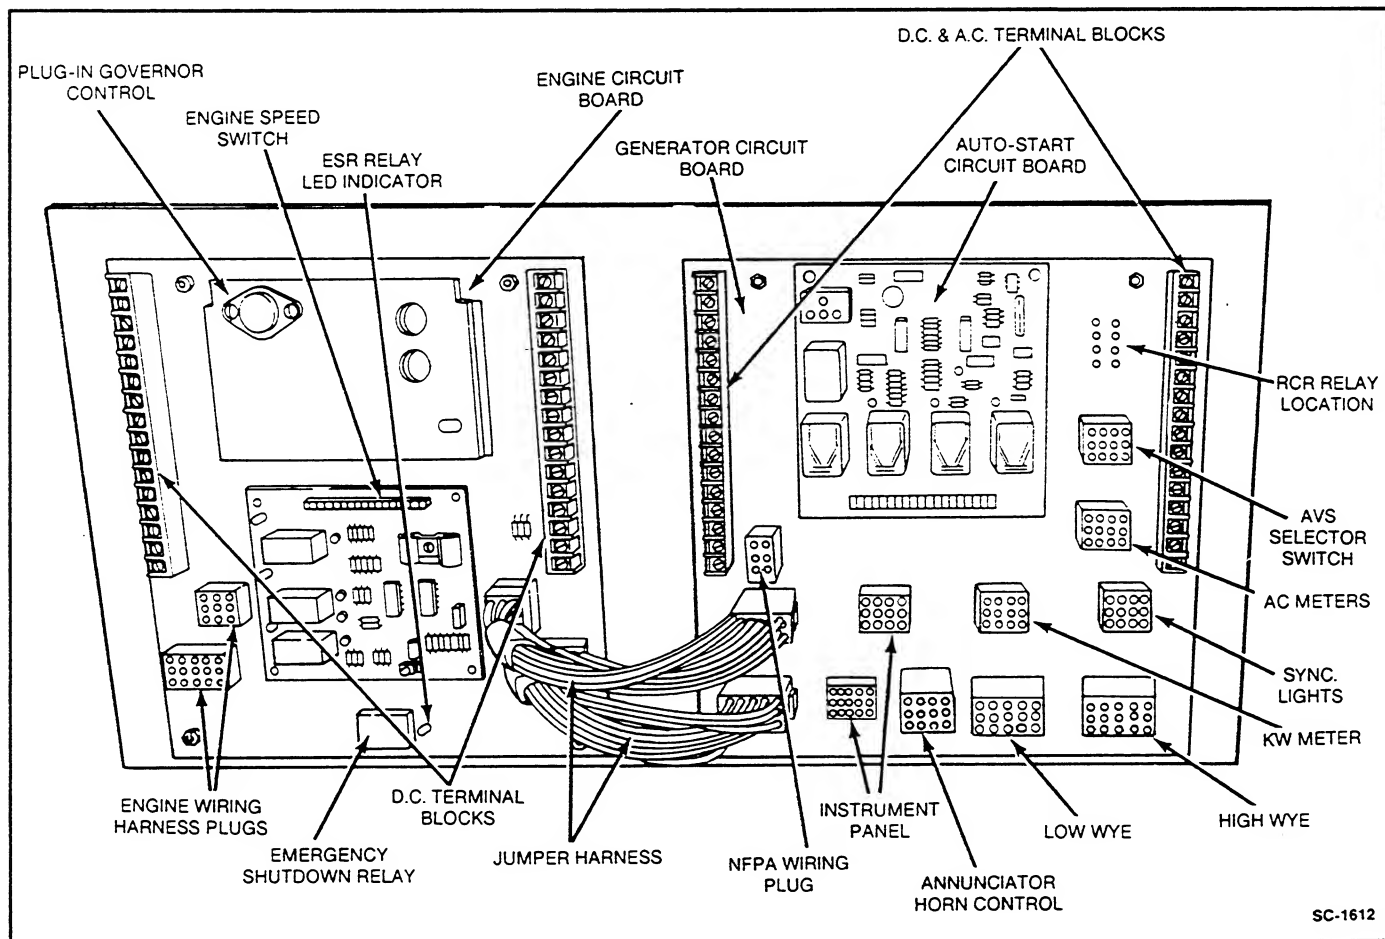

FIGURE 5-16. ENGINE AND GENERATOR PRINTED CIRCUIT BOARD CONTROLS
**Remote Control Connections:** Provisions are made in the control box for adding optional remote start/stop controls, monitoring, and alarms. Connections are made on terminal blocks located on the Engine and Generator circuit boards (see Figure 5-16). Refer to proper DC wiring diagram for further information.